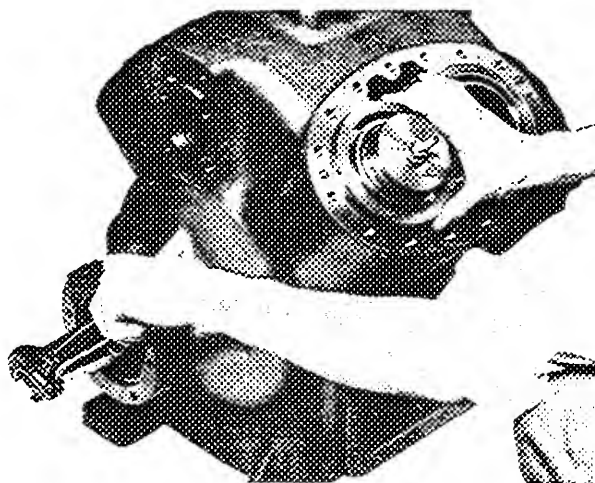

FIG. 21 - REMOVING SLEEVE
3. Tighten the nut on top of the sleeve puller to expand the puller in the sleeve. (See Fig. 21.)